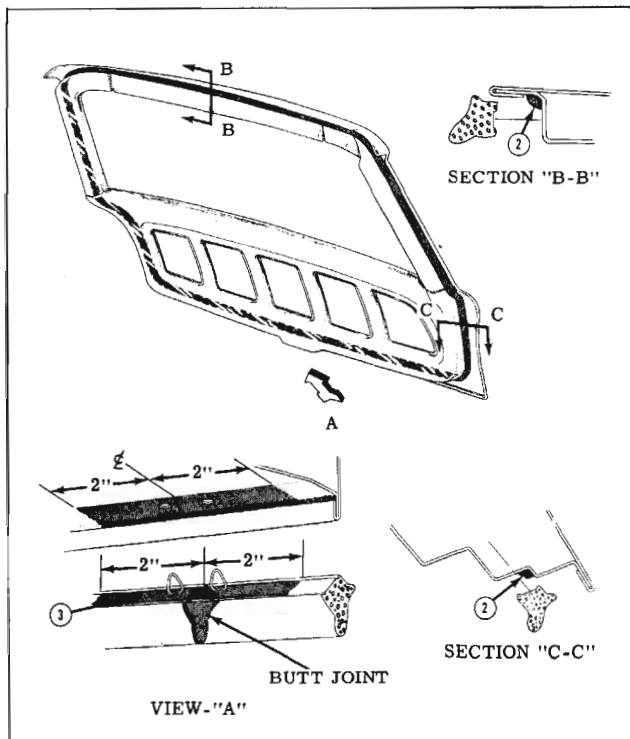

Fig. 16-292 Back Door Weatherstrip Installation
3. For distance of 2 inches on both sides of the butt joint location (bottom center of door), apply weatherstrip adhesive (neoprene type) to the door panel surface contacted by weatherstrip (View "A", Fig. 16-292).